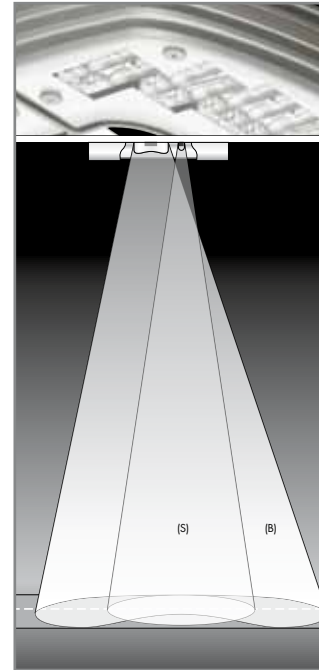

Fig. 1
Multiple rows of LEDs, using a mixture of secondary symmetrical (S) and batwing lenses (B) (Fig.1) for direct and longitudinal light distribution respectively, are positioned within angled reflectors that boost transverse light distribution. The resulting layering effect also maintains the light distribution in the event of dimming or a premature LED failure and gives excellent glare control. As the LEDs produce directional light, they only light the areas that need to be lit, maximising luminaire efficiency and thus spacings between lanterns